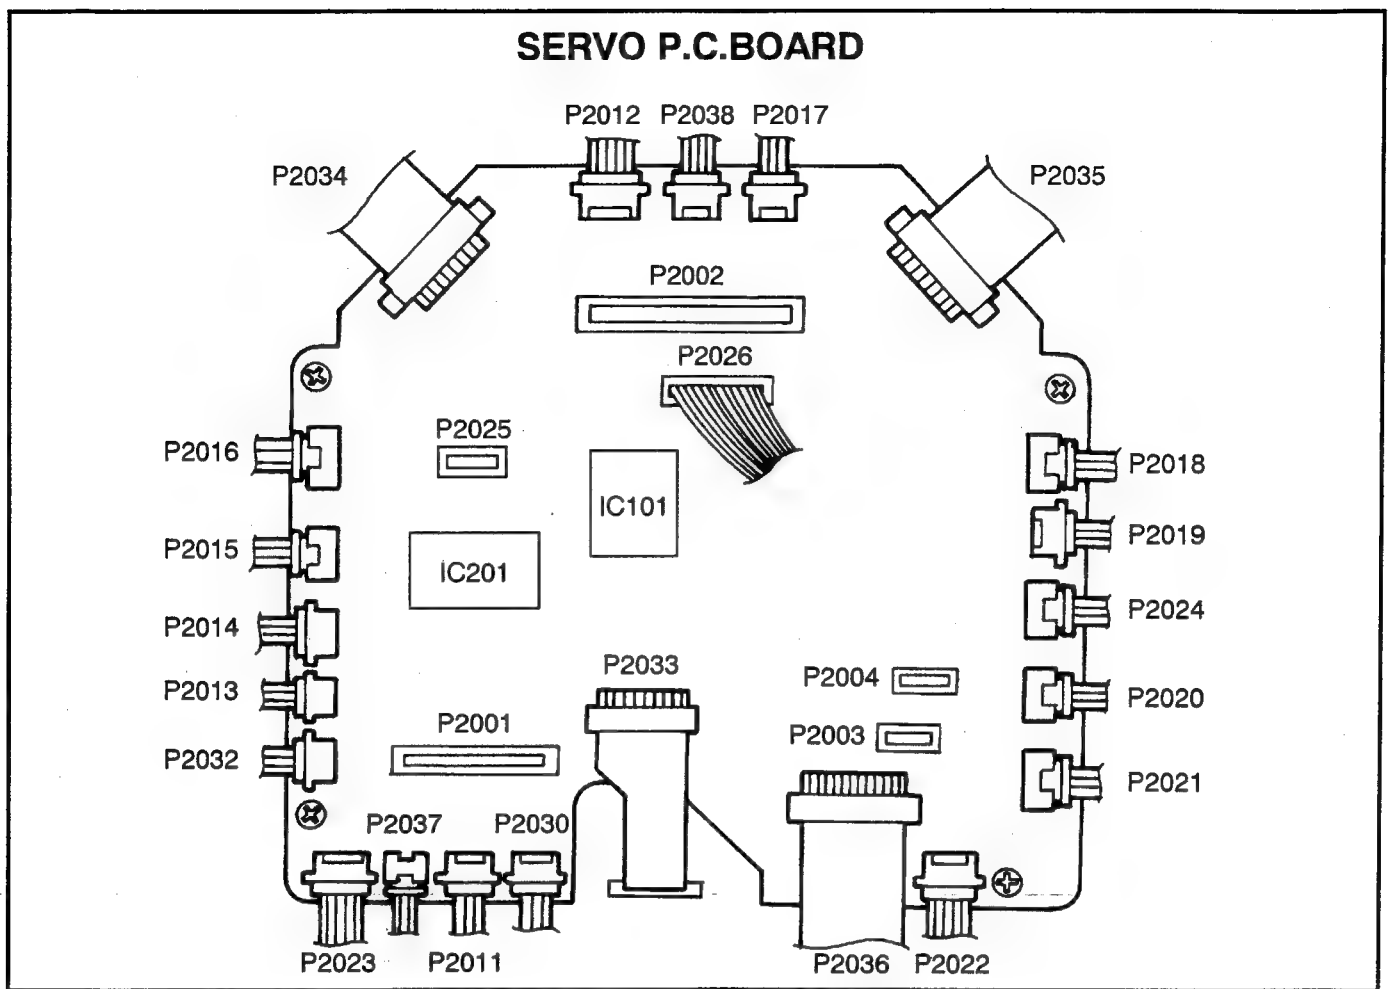
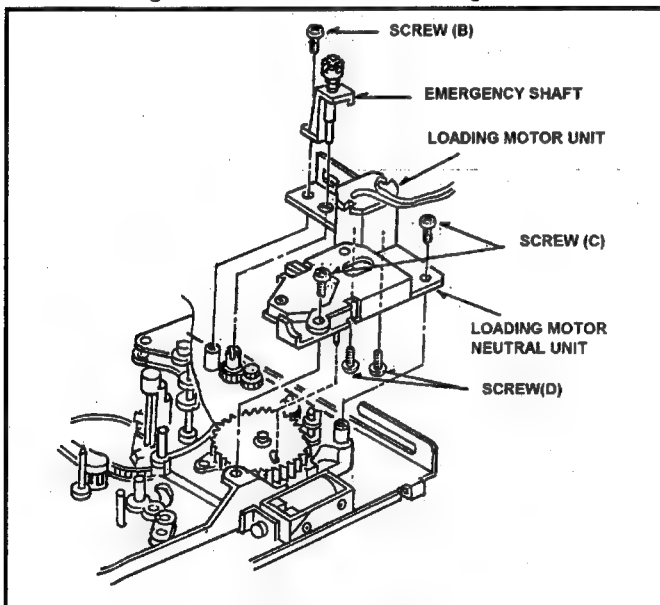
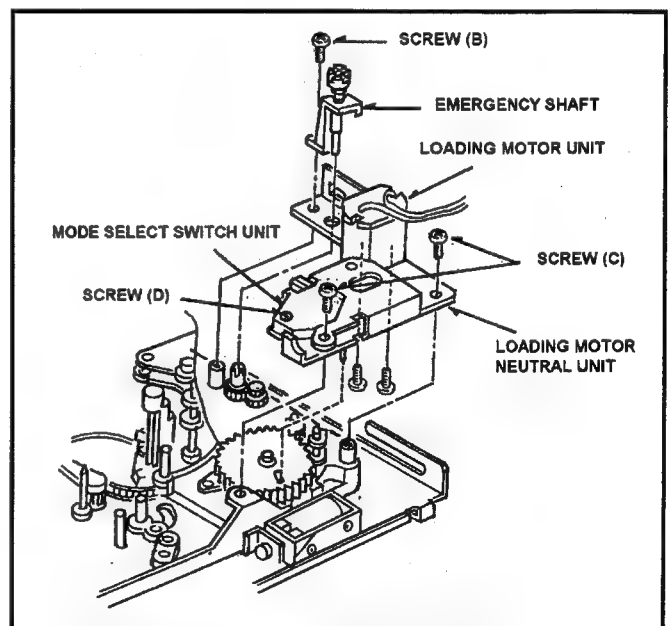

Fig. 6-3-1 Connection of Servo P.C.Board
Fig. 6-4-1 Removal of Loading Motor Unit
Fig. 6-7-1 Remove of Mode Select Switch Unit
4. Disconnect the connector P2034 and P2035 on the Servo P.C.Board as shown in Figure 6-3-1.
5. Move the S1 post to loading direction by manual ejecting method until the screw (C) can removing position.
8. Remove the 4 screws (C), (D) and (E) as shown in Figure 6-3-1.
4. Disconnect the connector P2021 on Servo P.C.Board as shown in Figure 6-3-1.
5. Remove the Pinch Solenoid Unit (Refer to item 6-9).
6. Remove the Pinch Solenoid Lever. (Refer to item 6-5).
7. Unscrew the screw (B), and remove the Emergency Shaft as shown in Figure 6-4-1.
8. Unscrew the 2 screws (C) and remove the Loading Motor Neutral Unit as shown in Figure 6-4-1.
9. Unscrew the 2 screws (D) and remove the Loading Motor Unit as shown in Figure 6-4-1.
4. Disconnect the connector P2020 on the Servo P.C.Board as shown in Figure 6-3-1.
4. Disconnect the connector P2022 on the Servo P.C.Board as shown as Figure 6-3-1.
5. Remove the Pinch Solenoid Unit and Loading Motor Neutral Unit (Refer to item 6-4).
6. Remove the screw (D) and remove the Mode Select Switch Unit from Loading Motor Neutral Unit as shown in Figure 6-7-1.